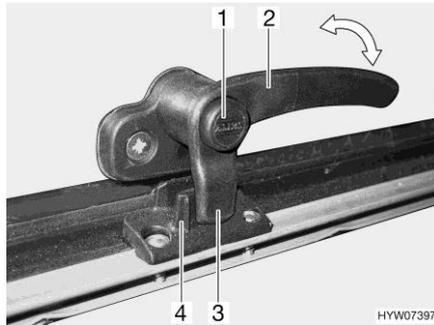
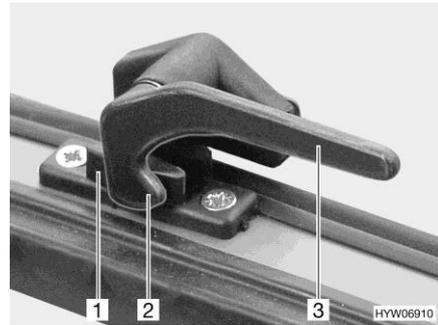

Fig. 117 Catch lever with safety knob in "closed" position
Fig. 118 Catch lever in "closed" position
- Press and hold the security button (Fig. 117,1), if present.
- Turn all catch levers (Fig. 117,2 or Fig. 118,3) a quarter turn towards the centre of the skylight.
- Turn all catch levers (Fig. 117,2 or Fig. 118,3) a quarter turn towards the frame. The locking catch (Fig. 117,3 or Fig. 118,2) is located on the inside of the skylight lock (Fig. 117,4 or Fig. 118,1).
- "Firmly closed" (Fig. 117 and Fig. 118)